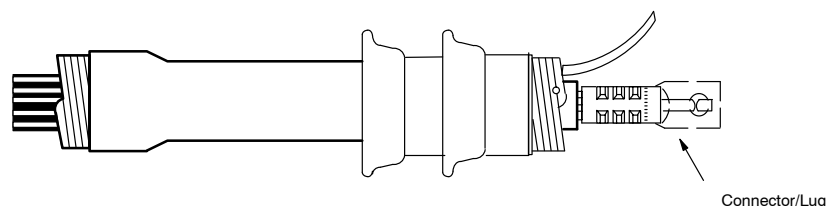

FIGURE 5
9. Install either the lug or pin terminal connector using the Y-35 tool with a U25ART die for #2 or 1/0 and a U249 or U28ART die for 4/0. Crimp as many times as possible without overlap. Remove excess oxide inhibitor and sharp crimp flashing. See Figure 5.